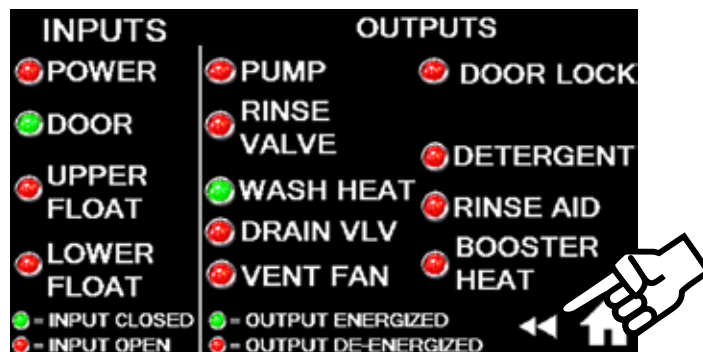

Fig. 38 - I/O SCREEN - Component status
3. The I/O screen appears, (Fig. 38).
Press the 'Back-up button (◀◀) to return to the Settings menu, (Fig. 38).